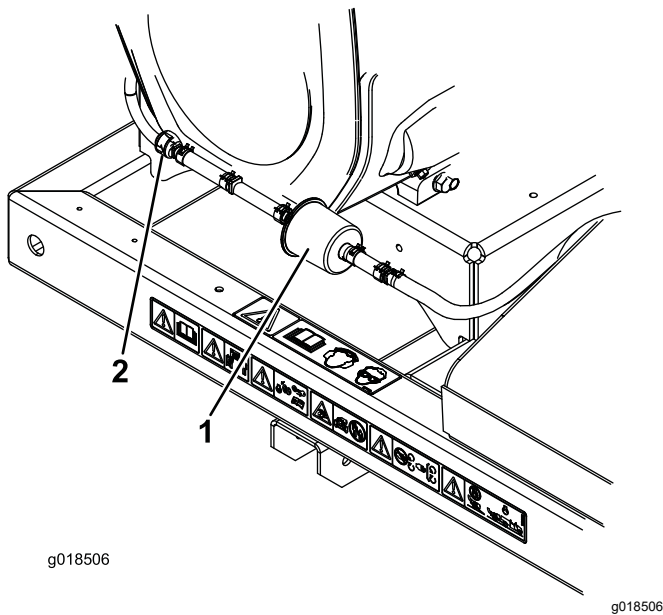

Figure 22
2. Move the spring-type hose clamps on both sides of the carbon canister purge-line filter away from the filter (Figure 22).
3. Remove and discard the carbon filter (Figure 22).
4. Install a new filter into the hose with the arrow on the filter pointing toward the check valve and secure it with the hose clamps (Figure 22).